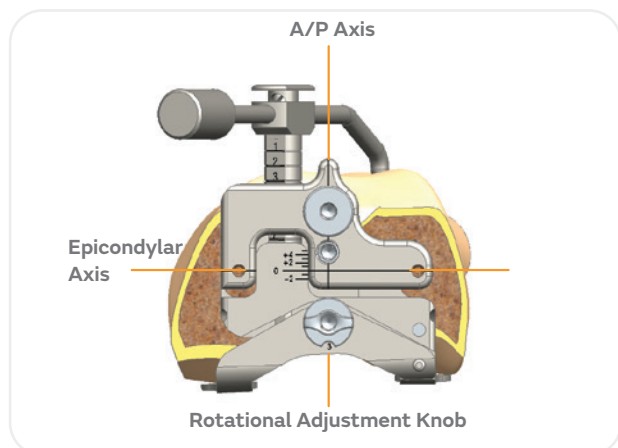

Figure 87
3. Once both the A/P and rotational measures are desirable relative to the anatomic landmarks, drill about a 1 inch (25mm) deep hole through each of the two holes in the drill guide (**Figure 87**).